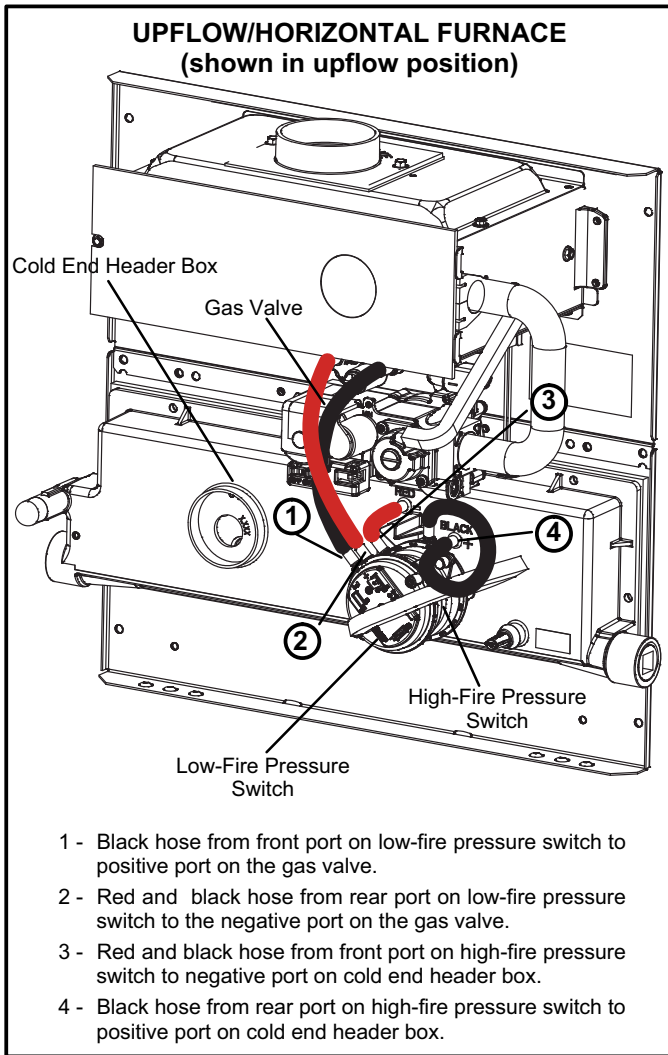

FIGURE 2
- 6 - Install replacement pressure switch. Reconnect pressure switch tubing as shown in figures 2 and 3.